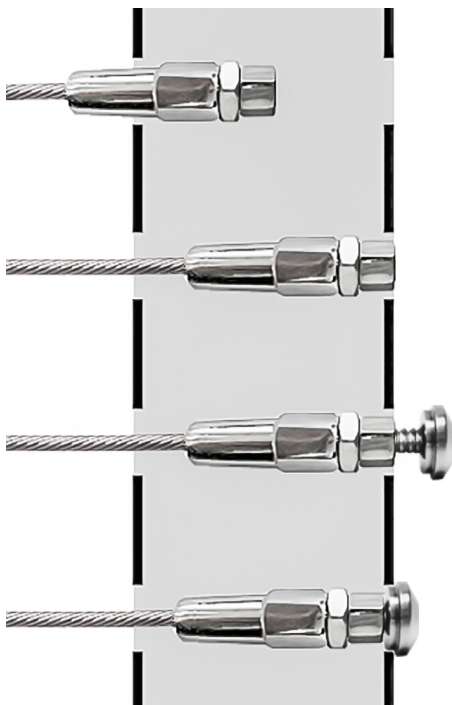
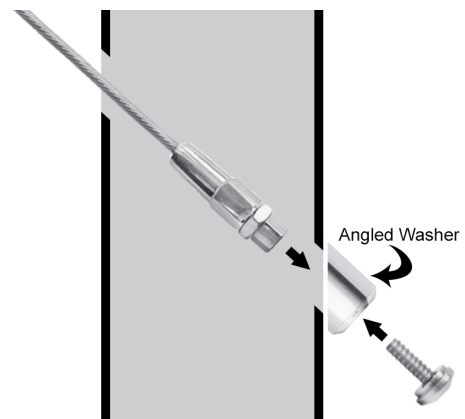

Fig 7.1
Fig 7.2
- 2) Re-assemble fitting and place through hole in Terminal post (Fig 7.1). See Fig 7.2 for stairs.